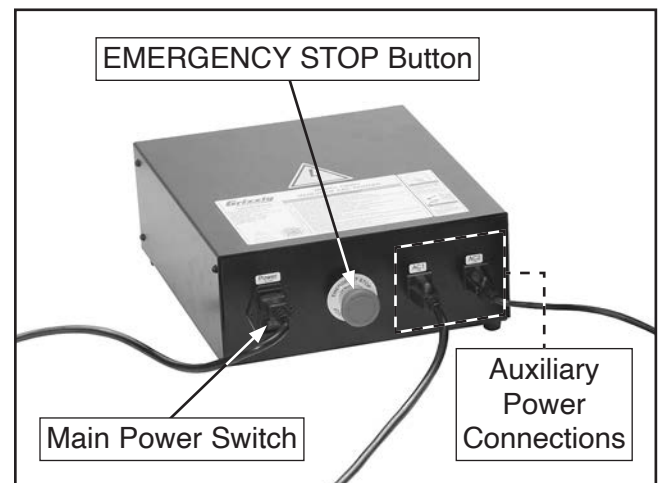

Figure 22. Location of control box power connections.
8. Turn main power switch to OFF position, then press EMERGENCY STOP button on front of control box (see **Figure 22**).
9. Connect control box to power by inserting power cord socket into receptacle on control box (see **Figure 22**), then insert power cord plug into matching receptacle.
Note: Auxiliary power connections are available on front of control box for compatible router accessories (see **Figure 22**). Refer to **Accessories** on **Page 43** for router accessories offered by Grizzly Industrial.